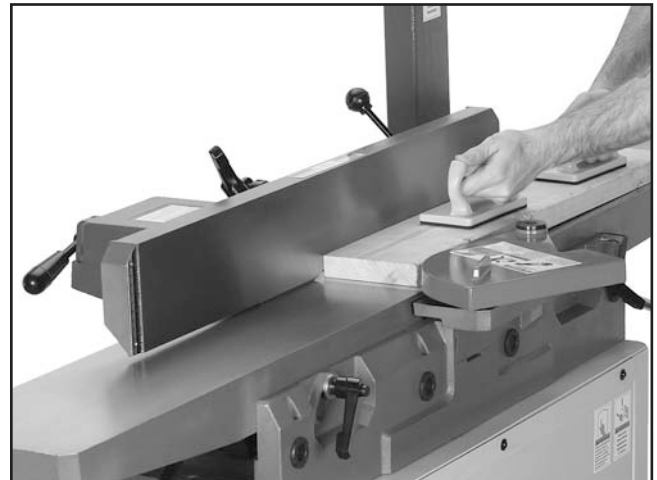

Figure 35. Example photo of a typical surface planing operation.
The purpose of surface planing on the jointer is to make one flat face on the workpiece (see **Figures 35–36**) to prepare it for surface planing on a thickness planer.
5. If your workpiece is cupped (warped), place the concave side (see **Figure 35** on **Page 27**) face down on the surface of the infeed table.